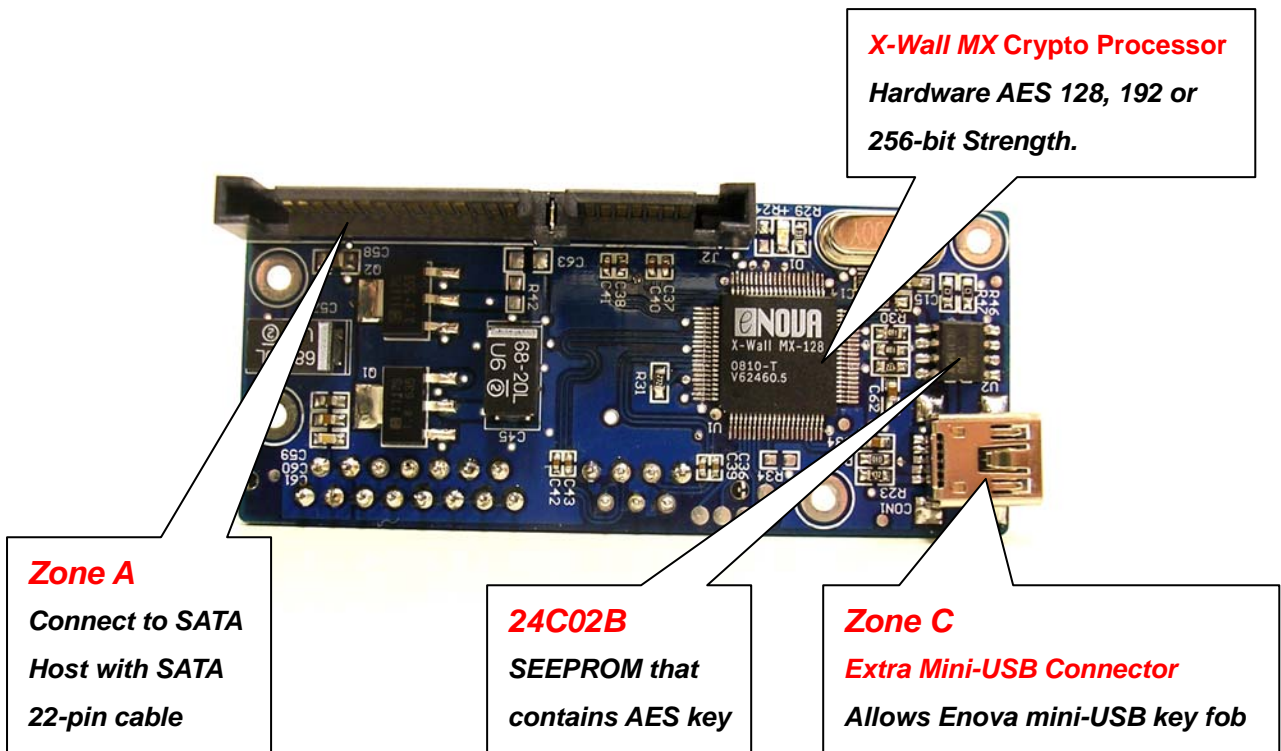

Figure 1. The front view of the MX dongle board
1. Connect the A connector (SATA channel A as illustrated in Figure 1) to your motherboard or controller SATA host via a standard SATA 22-Pin cable.
2. Connect the B connector (SATA channel B as illustrated in Figure 1) to your SATA hard disk via direct insertion.